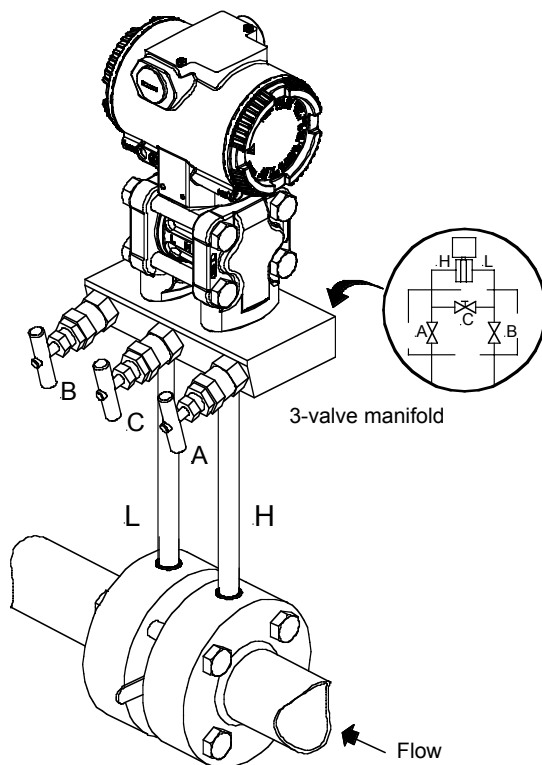

Fig. 5.2a - GAS Service
- a. Close low pressure (B) and high pressure (A) valves (fig. 5.2a and 5.2b).
- b. Open gate valves and equalizing (C) valve.
- c. Slowly open high pressure (A) valve to admit process fluid to both sides of primary.